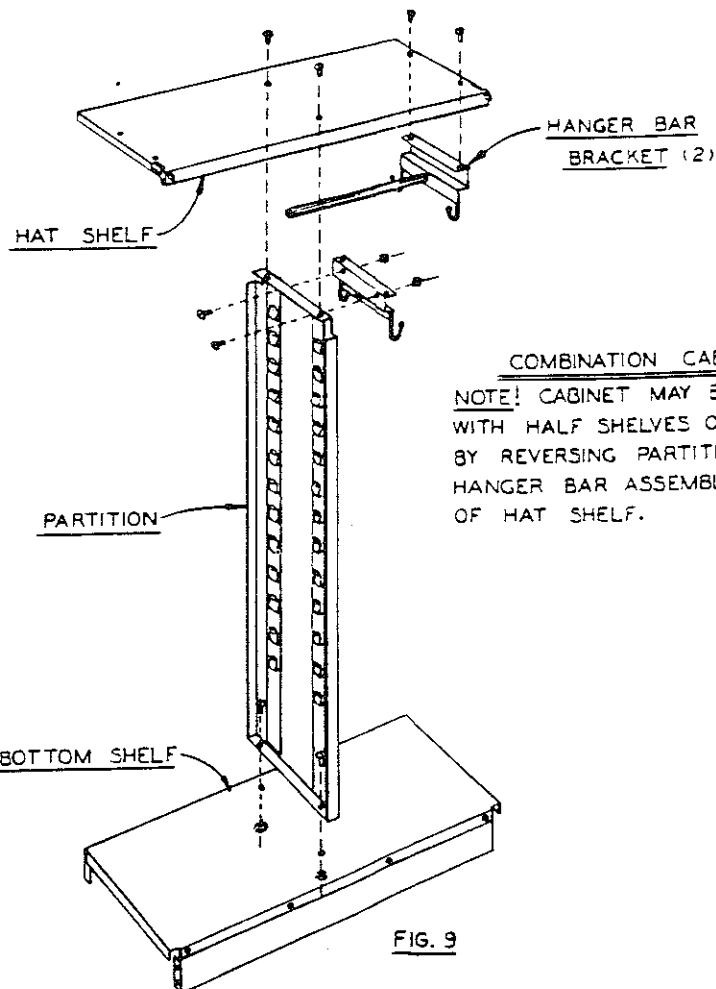

FIG. 9
3. FASTEN 2ND HANGER BAR BRACKET ON SIDE OF LOUVERED PARTITION. SEE FIG. 9. PLACE PARTITION INTO CABINET WITH HANGER BRACKETS FACING ONE ANOTHER. BOLT BOTTOM FLANGE OF PARTITION TO BOTTOM SHELF. SLIDE HANGER BAR INTO BRACKET AT END OF SHELF AND SWING TOP OF PARTITION INTO PLACE UNDER SHELF ALLOWING HANGER BAR TO ENTER BRACKET ON PARTITION. FASTEN TOP FLANGE OF PARTITION TO BOTTOM SURFACE OF TOP SHELF. SEE FIG. 9.